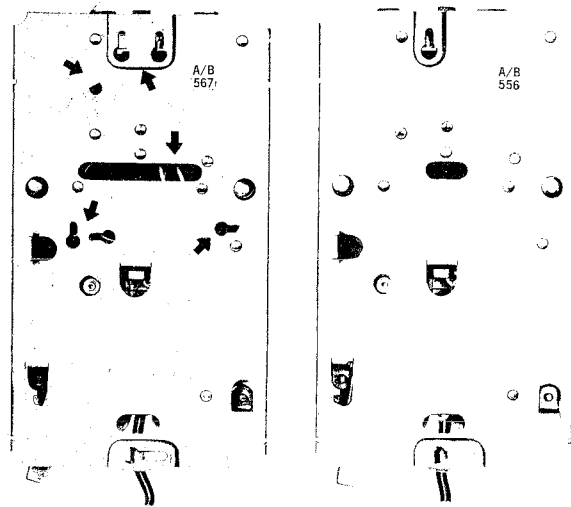

Fig. 15 — Present and Early Production Baseplates
(1) Several holes are provided in the baseplate for more flexibility in mounting to minimize backboard use. The telephone set may be mounted directly over a conduit outlet box. (See Fig. 15).
(2) Early production sets have a baseplate which does not provide the proper hole arrangement for fastening directly to conduit outlet boxes as shown in Fig. 15 therefore when required, drill two holes on the baseplate as shown in Fig. 16, using a No. 17 drill point of an Automatic B Push-Drill. An alternate method is to mount the set with wall screw anchors of proper size using the mounting holes at the top and bottom of the baseplate.
(3) Refer to appropriate Section for information on fasteners suitable for mounting wall-type sets directly to wall surfaces.